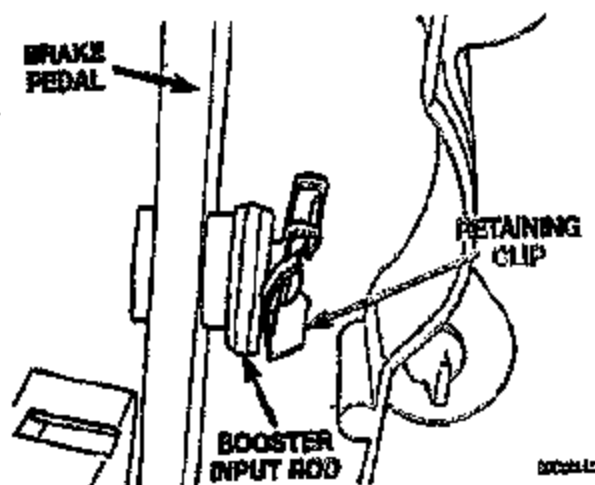

Figure 10
54. • For 1991 MY vehicles: Connect the push rod to the pedal pin and install the provided retainer clip (Figure 10). Make sure that the brake light switch is properly adjusted.